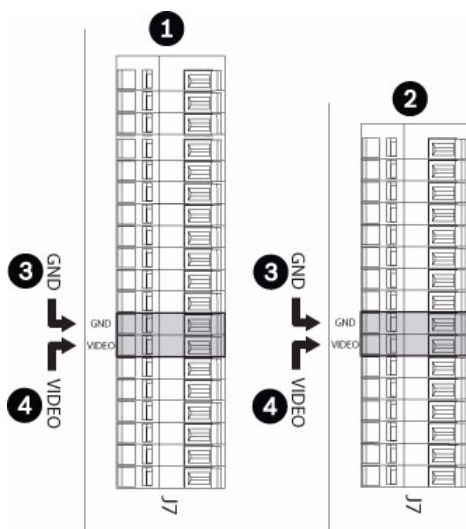

Figure 4.6 Wiring the Terminals
2. Use a small screwdriver to press down on the GND push latch (see *Figure 4.6*) and attach the black ground wire to the GND terminal.
3. Use a small screwdriver to press down on the VIDEO push latch (see *Figure 4.6*) and attach the clear coaxial conductor to the VIDEO terminal.